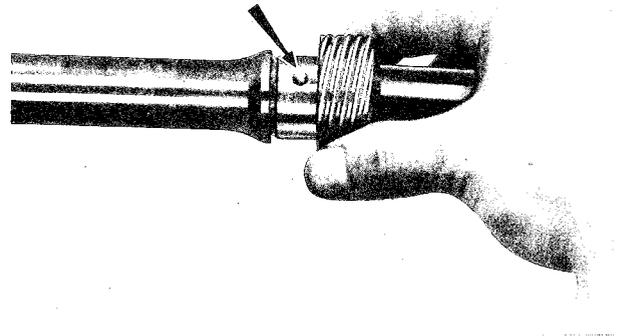

Fig. 7-27 Installing speedometer drive gear
36. Install the speedometer drive gear with the steel ball onto the main shaft, as shown in Fig. 7-27, and secure it with the snap ring.